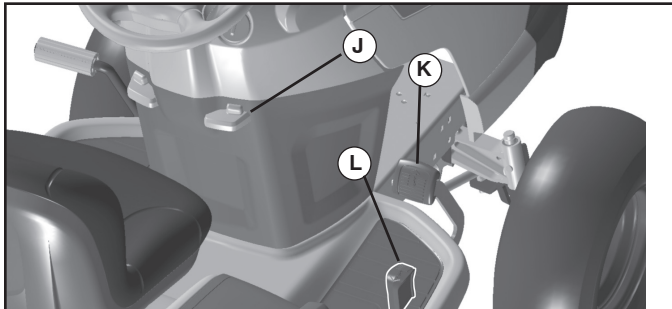

FIG. 7
(See Fig. 7)
- Slowly depress forward (K) or reverse (L) drive pedal to begin movement. Ground speed increases the further down the pedal is depressed.
TO USE CRUISE CONTROL (J) (See Fig. 7)